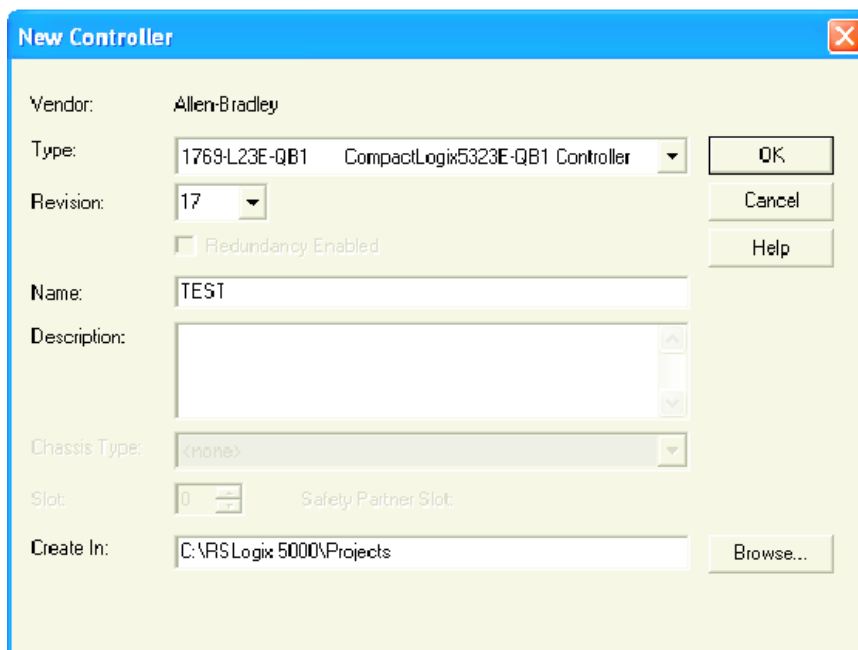

Figure 11-6: New Controller
1. In the 'File' menu select 'New', or click on the 'New Tool' icon. The 'New Controller' window opens (Figure 11-6).